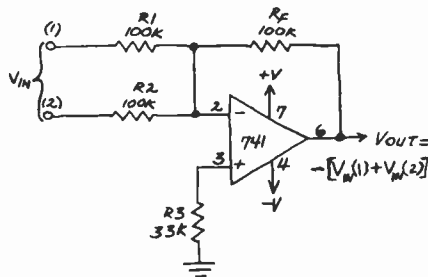

Fig. 5. Op amp summer. amplifier is the technical name for this circuit.
Adding with an Op Amp. Figure 5 shows an op amp adder that will accept two input voltages, add them and deliver the sum as an output voltage. *Summing*
Averaging with an Op Amp. A summing amplifier can also average two incoming voltages. All that's necessary is to make the ratio R_F/R_{IN} equal to the reciprocal of the number of input voltages. For example, to convert the adder circuit of Fig. 5 to an averager, leave the values of R_1 and R_2 undisturbed but change R_F to 50,000 ohms. This causes the ratio of R_F/R_{IN} ($1/2$) to equal the reciprocal of the number of inputs (2).